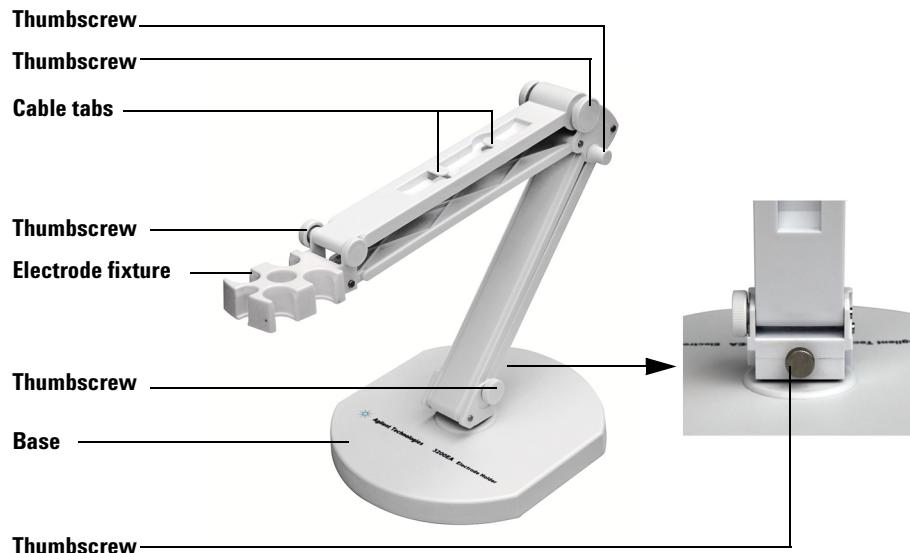

Figure 1 The electrode holder
- 1 Place the electrode holder near the meter and move the arm into position. Use the thumbscrews shown in Figure 1 to secure the arm in place.
- 2 Clip the pH/pX electrode and ATC probe into the electrode fixture shown in Figure 1.